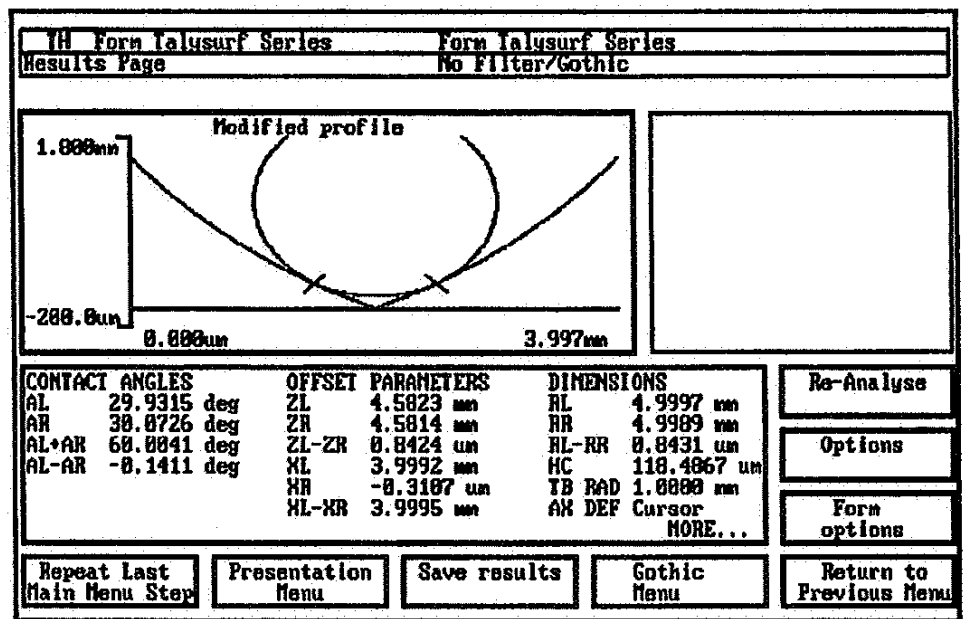
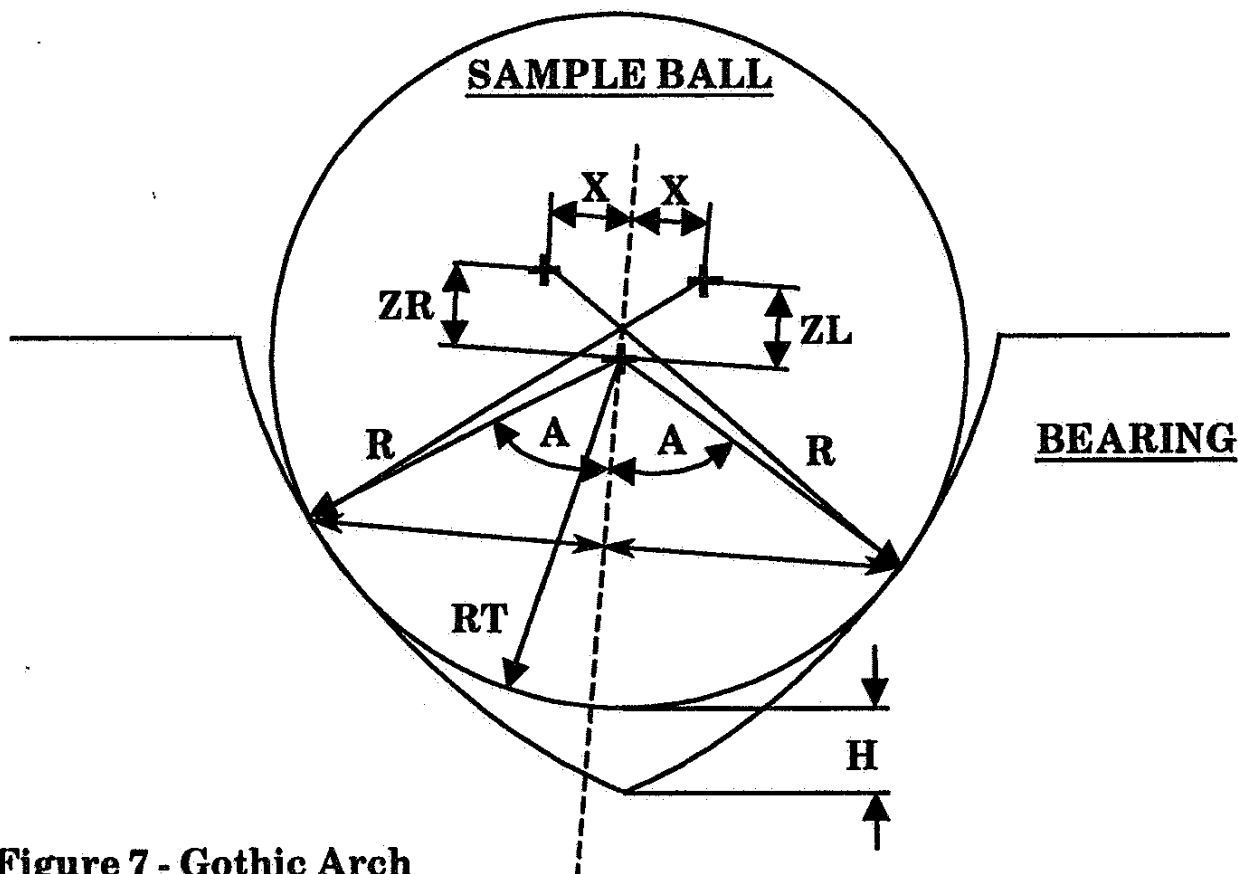

Figure 6 - Gothic Arch Results Parameters (Page 1)
Figure 7 - Gothic Arch Results Parameters
RESULTS OUTPUT A sample results page is shown in Figure 6, this should be related to Figure 7.
N.B. Dimensions and angles in Figure 7 are exaggerated for clarity.